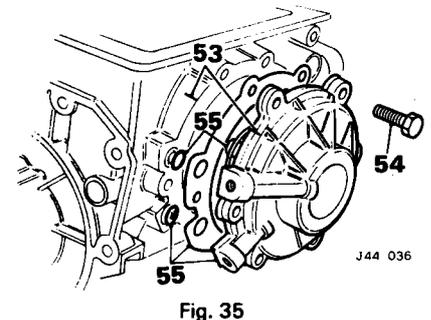

Fig. 35
53. Scribe alignment marks on the rear servo and transmission case (Fig. 35).
54. Remove the bolts securing the rear servo to the transmission case (Fig. 35).
55. Withdraw the rear servo together with operating rod and spring; remove and discard the 'O' rings and gasket (Fig. 35).